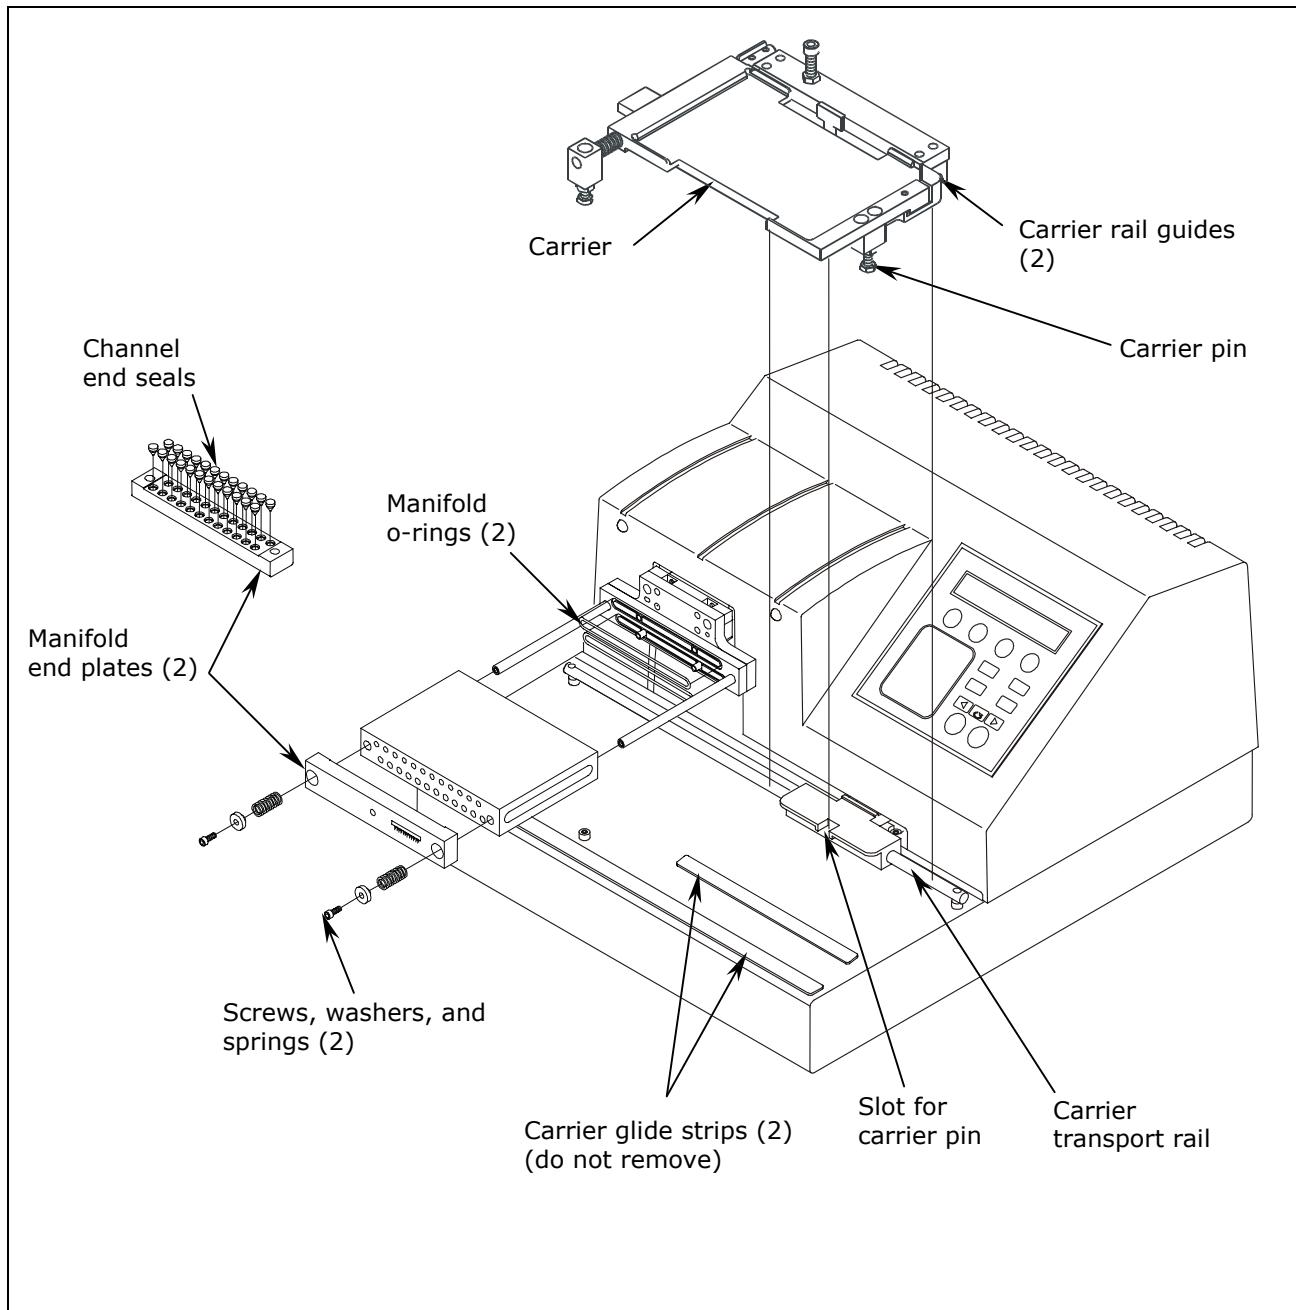

Figure 25: Carrier and Manifold Placement in the ELx405 Model
2. Carefully lift the carrier straight up and off the horizontal transport rail. See **Figures 25, 26, and 27**.
7. Using the 9/64" (3.57 mm) hex wrench, remove the screws, washers, and springs that hold the manifold(s) in place (see **Figures 25, 26**, and **27**). Carefully remove the manifold(s) and end plates.